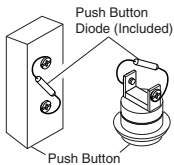

Figure 4
Installing Diode: A small electrical component called a "diode" is supplied with the chime. This diode must be installed on the terminal screws of the front push button (see Figure 4). Without this diode the chime will not complete the entire tune selected. If, with the diode in place, the chime does not play the complete tune selected, see *Troubleshooting*.
- **Check Diode on Front Door Push Button:** Verify diode is attached securely to push button (see Figure 4). If tune still does not sound completely, replace diode.